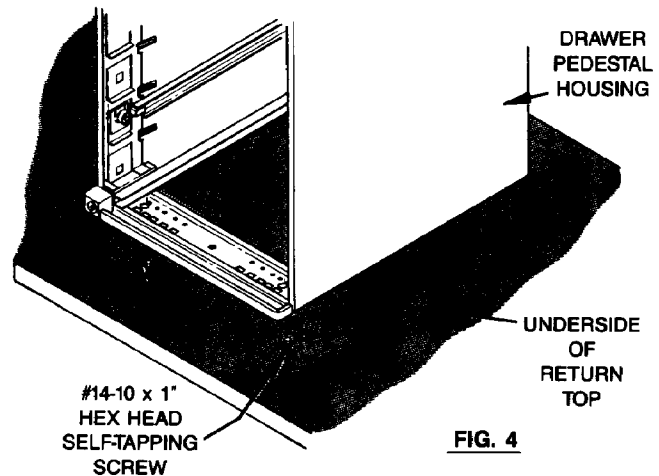

FIG. 4
4. If a drawer pedestal is part of the return assembly, loosen the four (4) #14 X 1" hex head self-tapping screws approximately 3/16" and slide the drawer pedestal housing back off the screws. Remove the four screws from the top and set them aside (Fig. 4).